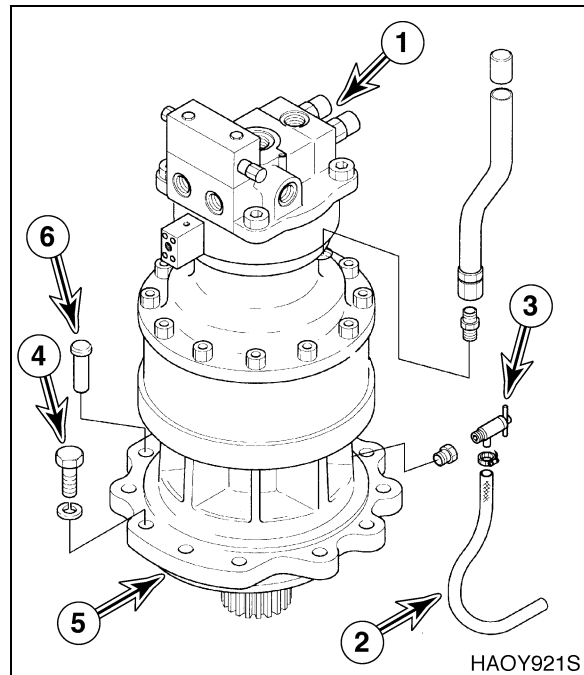

Figure 4
7. Tag and disconnect hoses from swing motor (1, Figure 4). Plug and cap hoses and port to prevent contamination from entering hydraulic system or component.
8. Disconnect tube (2) from drain cock (3)
9. Remove eleven bolts and washers (4, Figure 4) holding swing reduction gearbox (5) to frame.
10. Using a suitable lifting device, sling swing motor (1, Figure 4) and remove swing motor and reduction gearbox (5) as an assembly from unit.
NOTE: A drain cock (3, Figure 4) and tube are located on side of gearbox. Be careful not to damage valve or tube.
NOTE: There is one alignment pin (6, Figure 4), located on side of reduction gearbox flange.